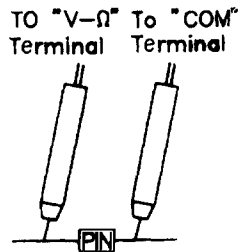

Figure 3-3
4. Connect the leads to the semiconductor junction (diode or transistor) as shown in Figure 3-3 and 3-4, and read displayed value.
In the case of Figure 3-3, the reading value shall be the approx. Forward voltage of the semiconductor junction. If the reading value is ".000" that means the junction is short. If the reading value is "1." that means the junction is open.